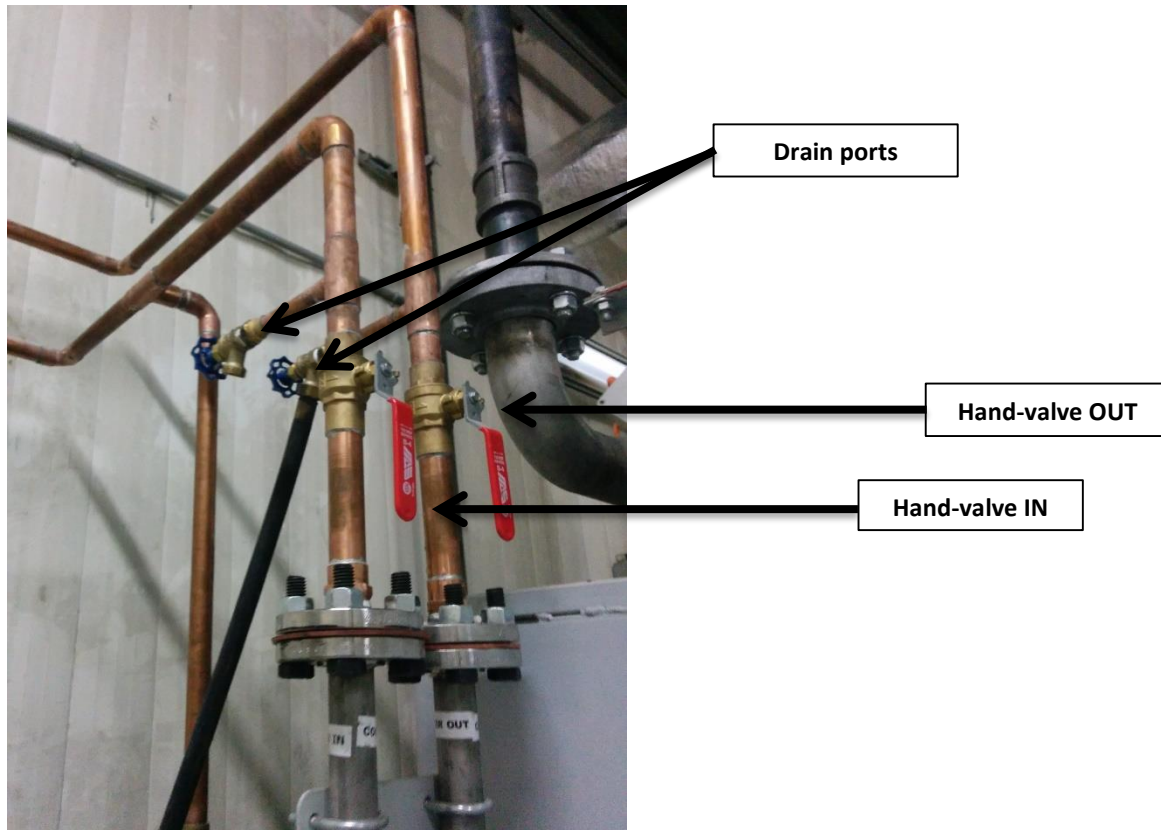

Figure 11: MAGS water connection
3. Next, connect a hose on the 'Drain ports' as seen in **Figure 11** below, and open the blue drain hand-valves in order to drain the water remaining on the pipes, and to relief the pressure in the lines.
4. When no more water comes out of the drain then, close **Hand-Valve IN** and **Hand-Valve OUT** (see **Figure 11**).